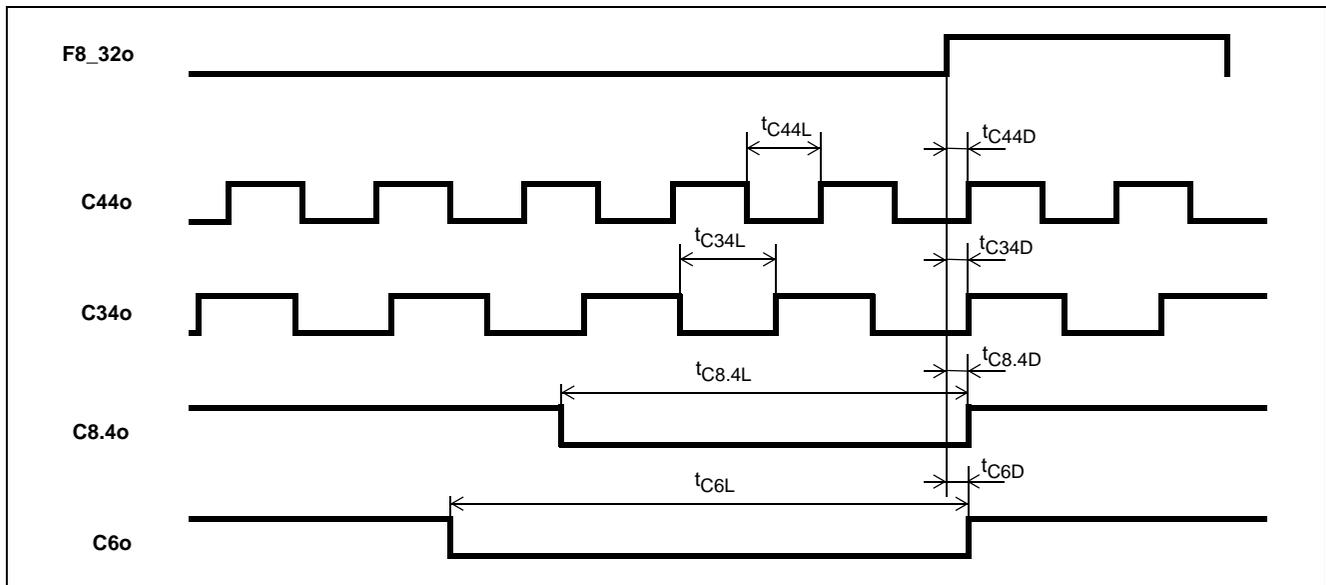

**Figure 31 - SDH Output Timing Referenced to F8/F32o**
**AC Electrical Characteristics\* - SDH output timing (see Figure 31).**